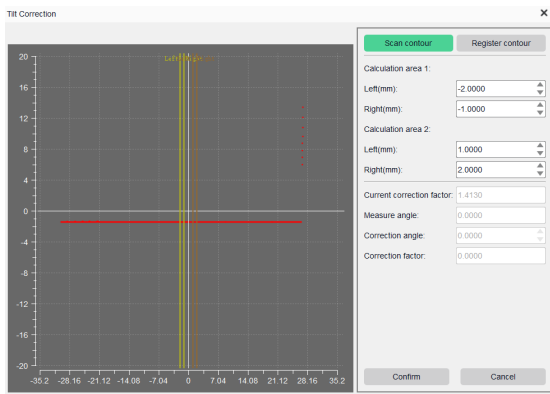

Figure 3.4.9 Profile Diagram After Tilt Correction
- 5 The corrected contour obtained through angle calibration correction is shown in Figure 3.4.9.